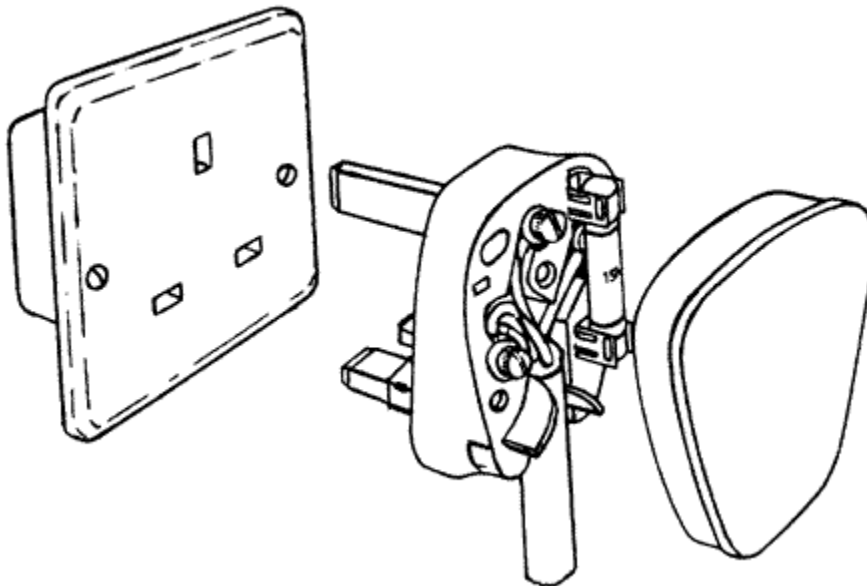

Fig.1 Plug and socket to BS 1363
**A fused plug and socket to BS 1363 is shown in Fig.1 below.**